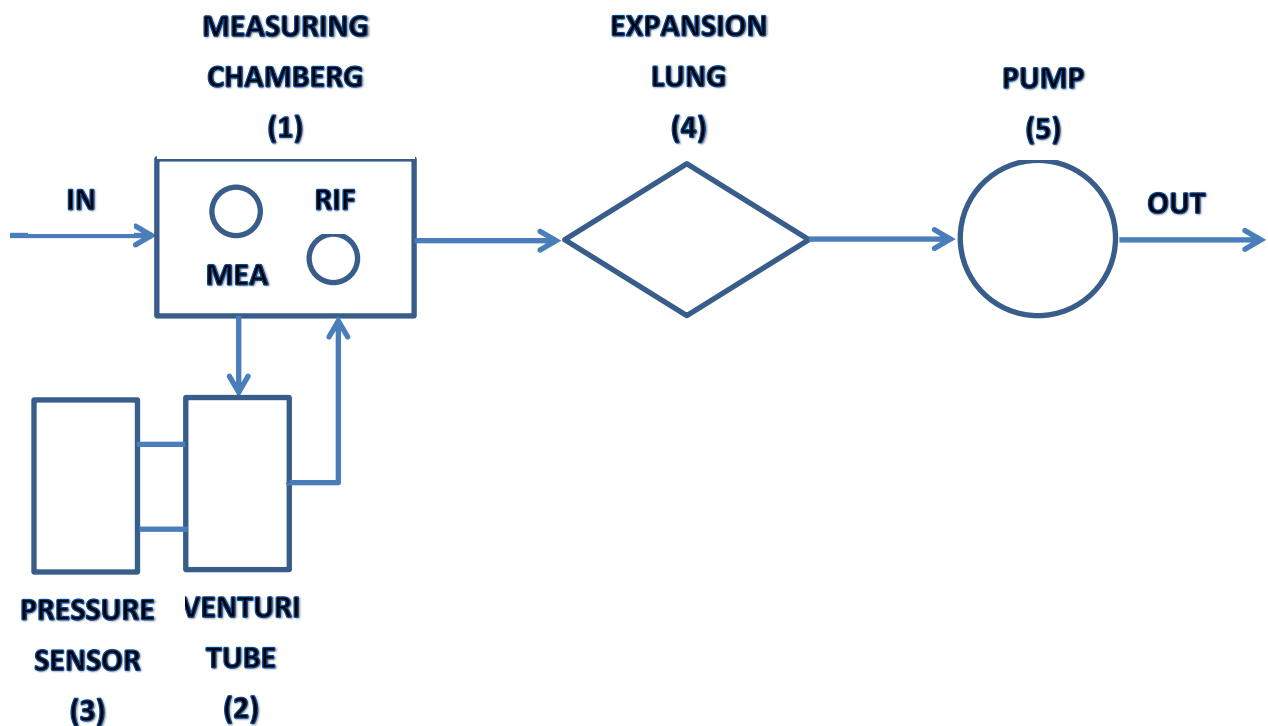

Figure 4
Figure 4 shows the pneumatic circuit of the DBAP5. Air flow entering the measuring chamber (1), after the measuring channel the flow is measured through the Venturi tube (2). The flow then enters the reference channel. Any possible flow fluctuation due to the pump (5) is attenuated by an expansion lung (4). The air flow is then evacuated through the instrument outlet.